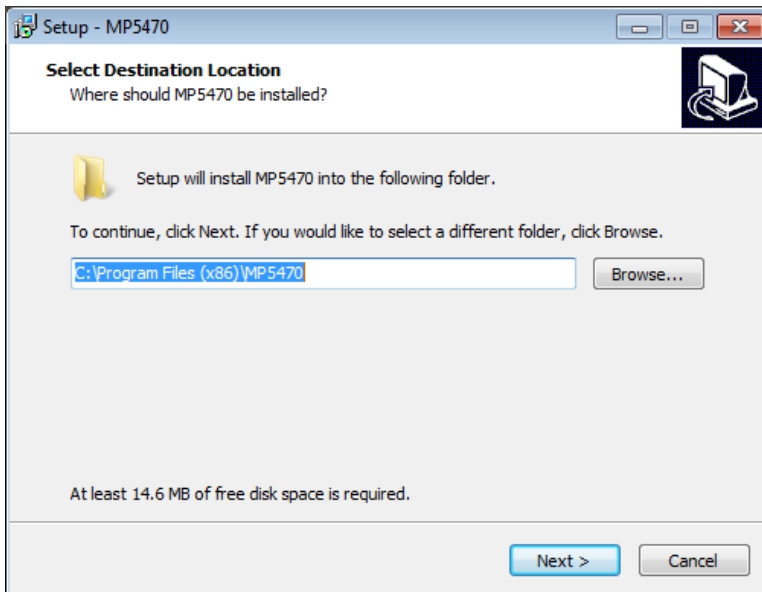

Figure 4: MPS I2C GUI Set-Up Guide
2. Double click the .exe file to open the set-up guide (see Figure 4).